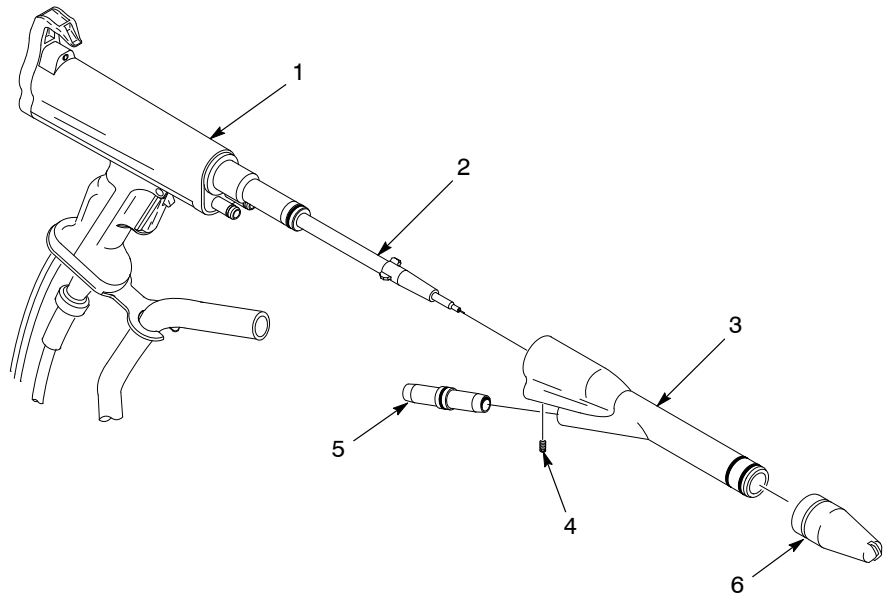

Figure 5-2 Daily Maintenance
4. See Figure 5-2. Disassemble the powder path using the following steps.
- a. Remove the flat spray nozzle (6), or any installed optional nozzle.